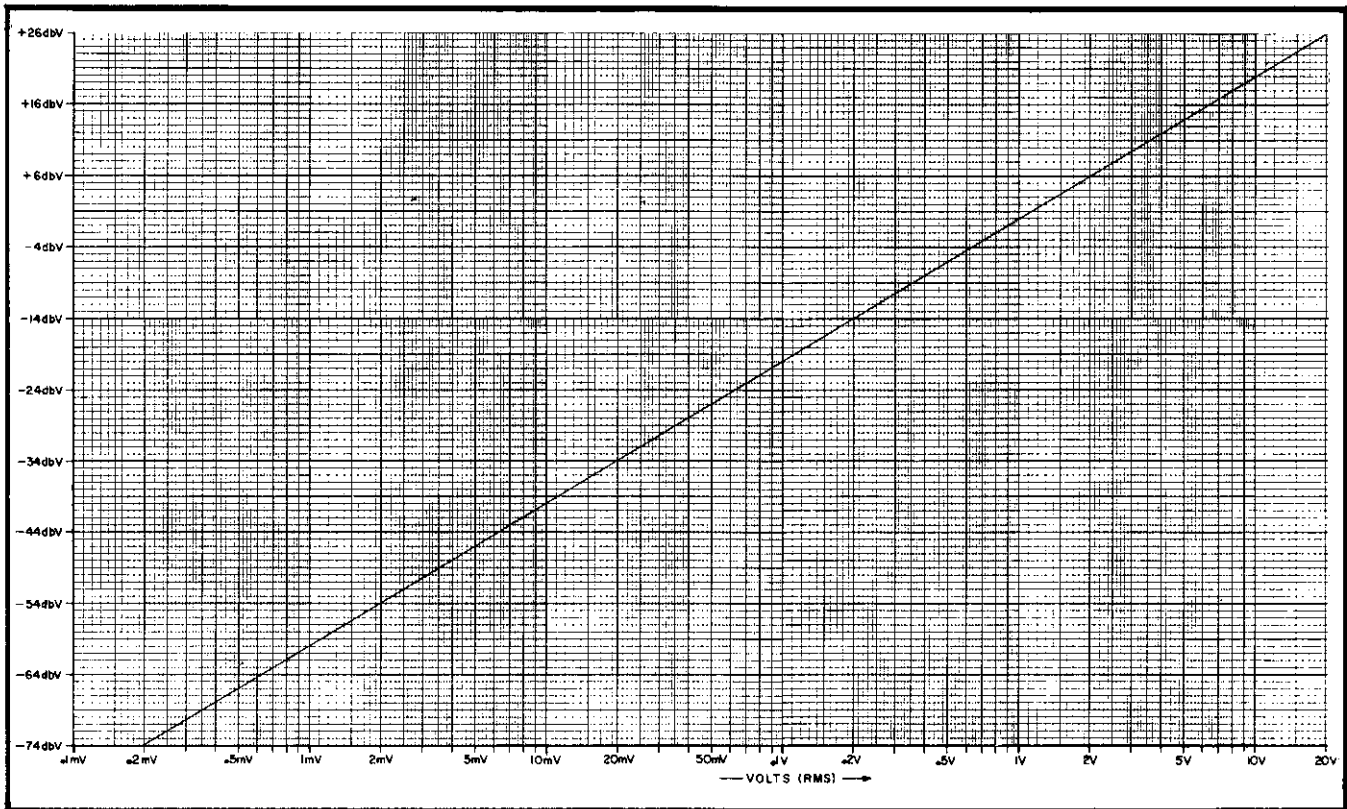

Figure 3-6. dBV to Volts Conversion.
**3-44. Log A and Log B Measurements.** The single channel amplitude functions, A or B, permit direct measurement of either input level in dBV. These readings can be converted to ac volts using the graph shown in Figure 3-6. To measure the level applied to either input channel, proceed as follows:
- g. If desired, convert the dBV reading to rms volts using the graph shown in Figure 3-6.